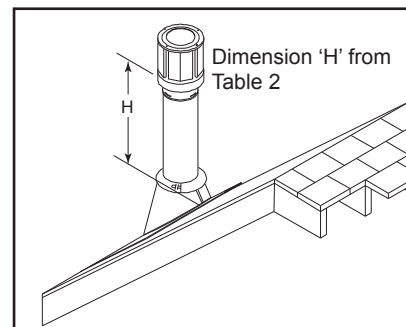

Figure 35
Step 8 - Continue to add pipe sections until the height of the system (before adding the cap) meets the minimum building codes requirements as described in Table 2, Figure 35. Note that for steep roof pitches, the vent height must be increased. In high wind conditions, nearby trees, adjoining rooflines, steep pitched roofs and other similar factors can result in poor draft, or down drafting.